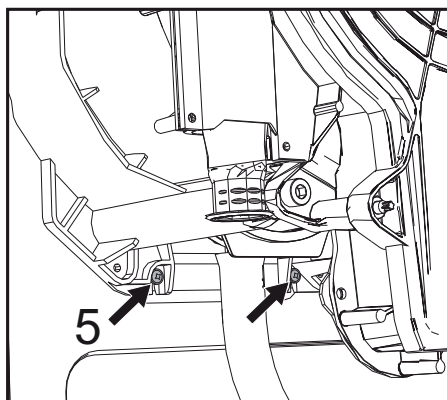

fig. 48
- Loosen the 2 **bottom screws "5"** securing the exchanger to the frame (fig. 48)